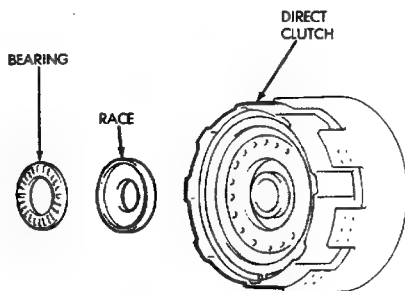

Fig. 32 Remove Bearing And Race From Clutch Hub
- (40) Remove thrust bearing and race from clutch hub (Fig. 32).